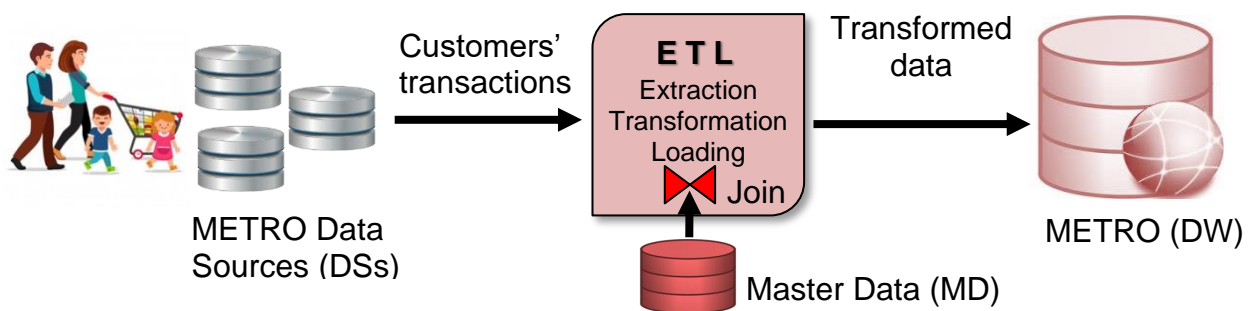
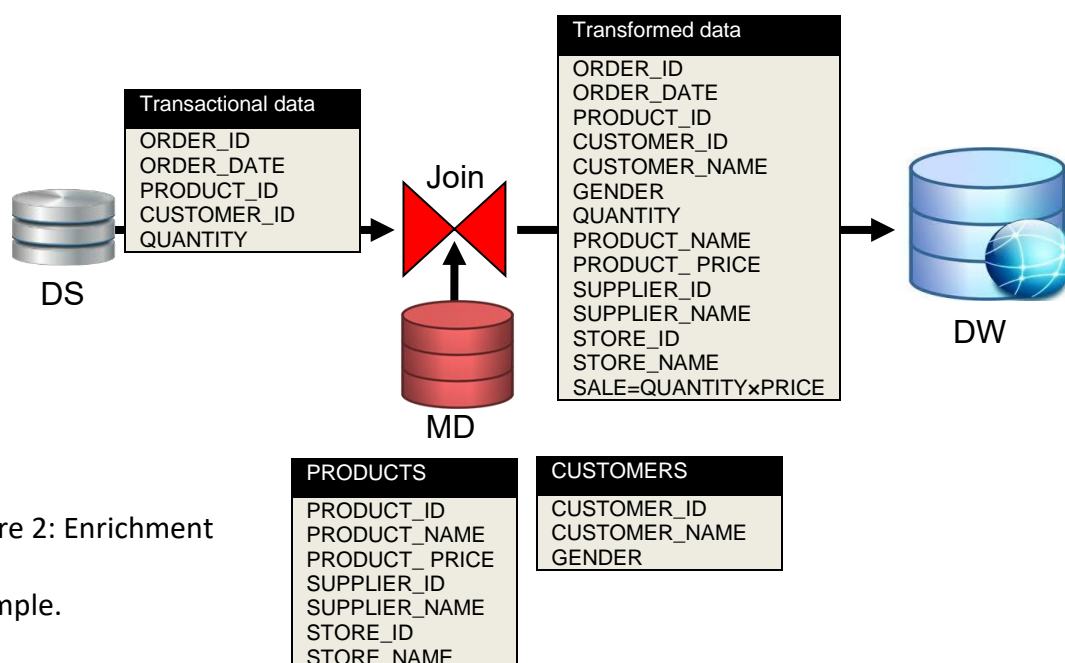

Figure 1: An overview of METRO DW
Figure 2: Enrichment example.
Now, to make this analysis of shopping behaviour practical there is a need of building a near-real-time DW and customers' transactions from Data Sources (DSs) are required to reflect into DW as soon as they appear in DSs. The overview of METRO DW is presented in Figure 1. To build a near-real-time DW we need to implement a near-real-time ETL (Extraction, Transformation, and Loading) tools. Since the data generated by customers is incomplete as it required by DW, it needs to complete in the transformation layer of ETL. For example, enriching some information from Master Data (MD) as shown in Figure 2.
The star schema represents aggregated data for specific business activities. Using the schema, one can create multiple aggregated data sources that will represent different aspects of business operations. For example, the aggregation may involve total sales by selected time periods, by products, by stores, and so on. Aggregated totals can be total product sold, total sales values by products, etc. The basic star schema has three main components: *facts*, *dimensions*, *attributes*, and *classification levels*. Figure 2 can help you to determine the right components for your star schema.
1. Identifying appropriate dimension tables, fact table, and their attributes for the sales scenario presented in Figure 2. Based on that create a star-schema for DW with appropriate primary and foreign keys.